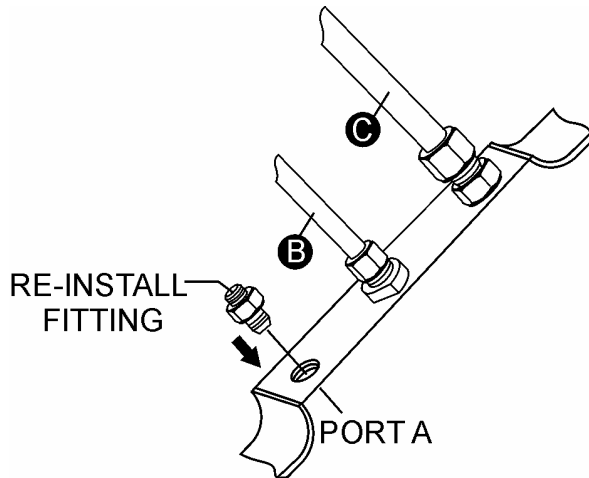

Figure 12. Port A Fitting Installation
12. Reinstall fitting removed in step 7 into port **A** as shown in Figure 12.